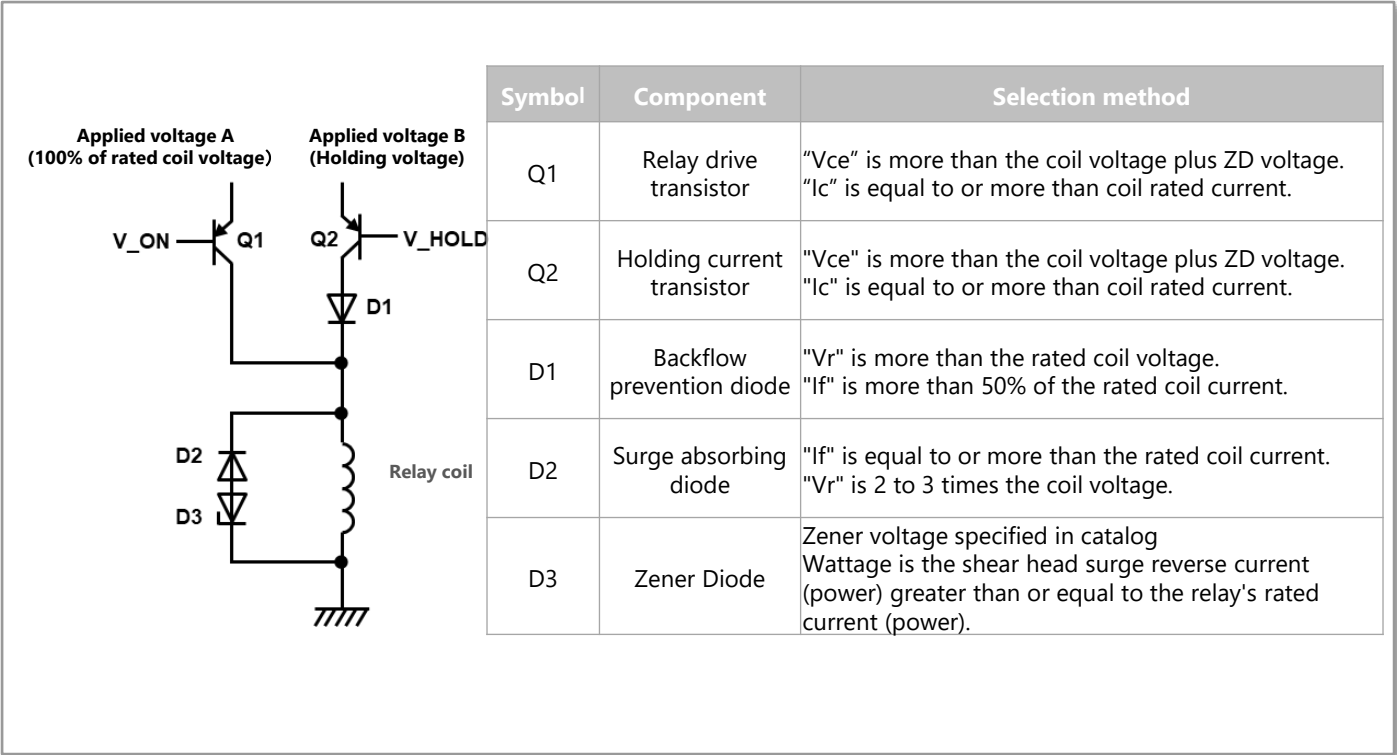

Figure 14: : Recommended holding voltage circuit example with switch, and peripheral component selection method
If a low voltage (B) for holding the coil is available in addition to the rated coil voltage (A), it can be switched to the holding voltage by means of a switch. Switching to 50% voltage will reduce the current to 50%, thus greatly reducing the power consumption of the entire circuit to 1/4 of the rated value. (See Figures. 14 and 15).